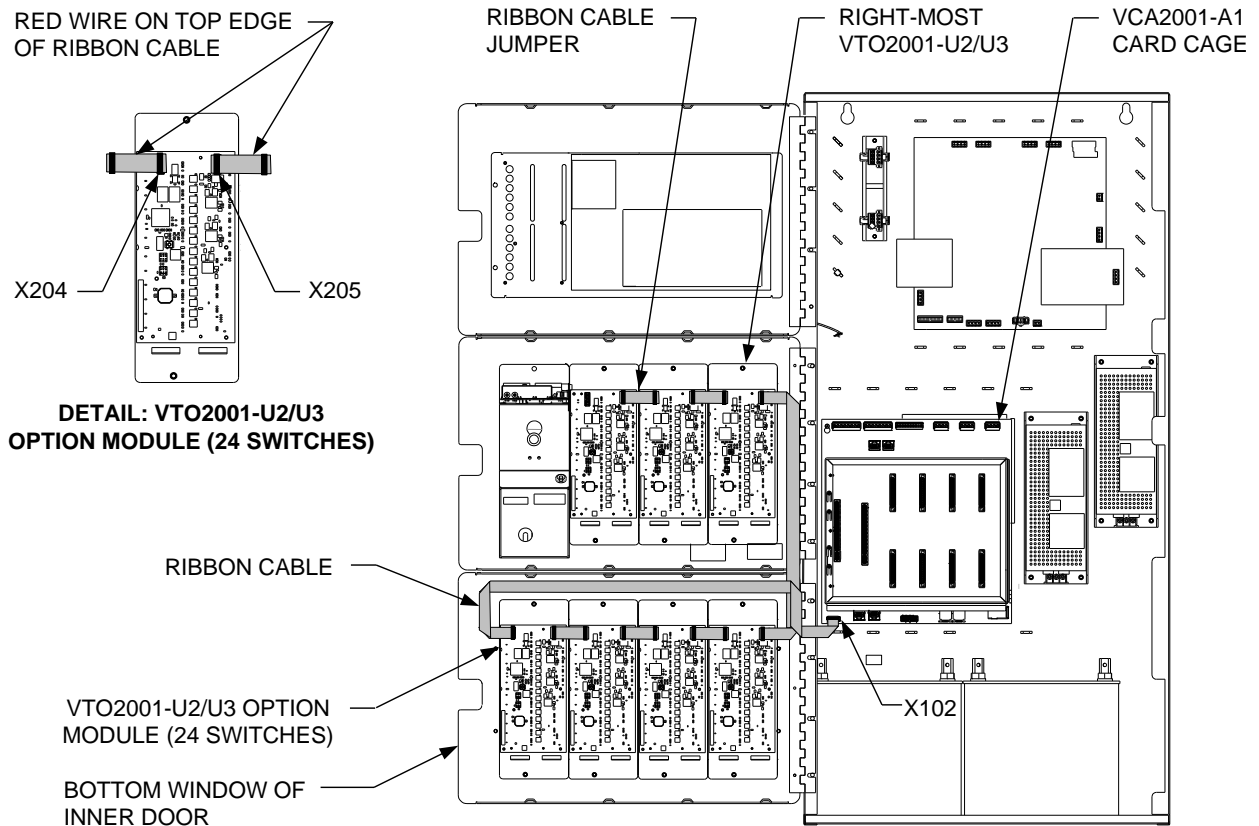

Figure 8
- If one or more VTO2001-U2/U3 is mounted in the bottom window, use Wiring Procedure 1B, below, and route the ribbon cables as illustrated in Figure 8.
1. Please see Figure 8. Install a 16-conductor CAN ribbon cable between connector X102 located just below the VCA2001-A1 Card Cage and connector X204 of the left-most VTO2001-U2/U3 module in the bottom window of the FV2025/2050 Panel's inner door.
2. Install ribbon cable jumpers to 'daisy chain' all VTO2001-U2/U3 Option modules mounted in the bottom window, as illustrated in Figure 8.
4. Install ribbon cable jumpers to 'daisy chain' all VTO2001-U2/U3 Option Module (24 Switches) modules mounted in the middle window, as illustrated in Figure 8.
- VTO2004-U2/U3 Option Module (Microphone) (as shown in Figure 8), refer to Siemens Industry, Inc., Building Technologies Division, document number A6V10370377 *Installation Instructions for the Model VTO2004-U2/U3 Option Module (Microphone)* for instructions on wiring the VTO2001-U2/U3 Module to the VTO2004-U2/U3 Module.